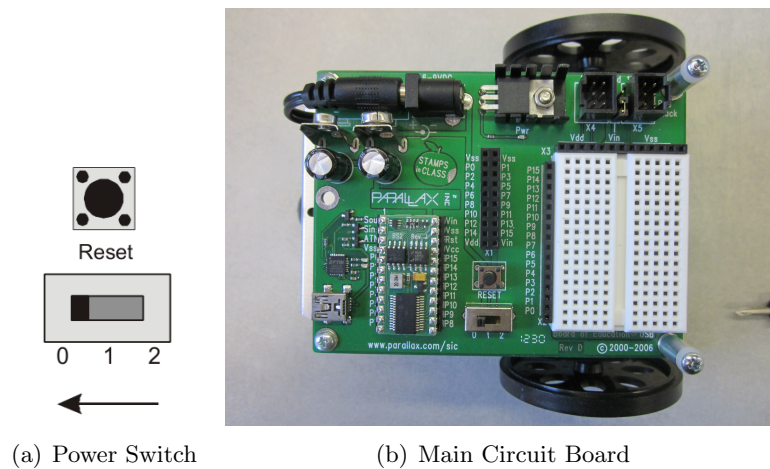

Figure 1: Diagrams of the Main Circuit Boards
5. Once your program is saved, make sure that your Boe-Bot is still connected to the computer and click Run⇒Run from the toolbar (Or click the blue arrow icon at the top of your screen). Once the program is downloaded to the Boe-Bot you should see a DEBUG terminal window appear on the screen displaying the message “Hello, this is a message from your Boe-Bot”. To prove that this is a message from the Boe-Bot, you can press and release the RESET button located on the Board of Education (see Figure 1). Each time that you do this, you should see a new message appear in the DEBUG Terminal.